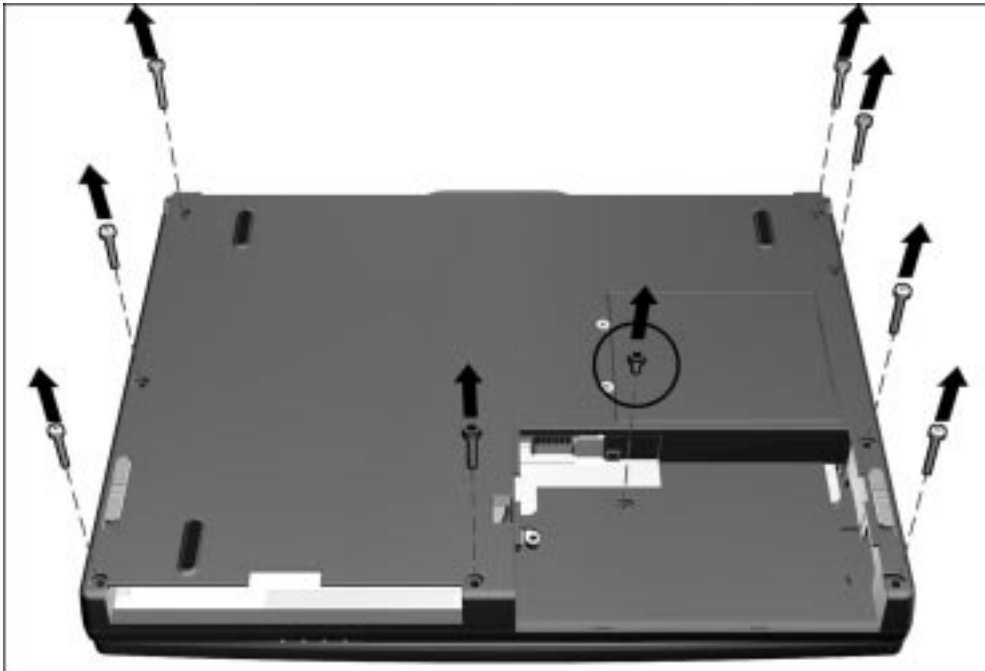

Figure 5-19. Removing the Keyboard/CPU Cover Assembly Screws
3. Remove the nine screws from the bottom of the computer (Figure 5-19).
CAUTION: The screw removed from the MultiBay area of the computer (circled in Figure 5-19) is shorter than the other screws removed in Step 3. When installing the keyboard/CPU cover assembly, be sure this shorter screw is installed in the proper location. Failure to follow this caution can result in damage to the computer.